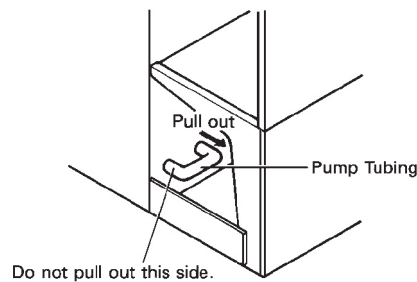

Fig. 10
- 7) Remove one end of the pump tubing, and drain the water tank. See Fig. 10.
- 5) Remove one end of the pump tubing. Drain the water tank. Replace the pump tubing in its correct position. See Fig. 10.